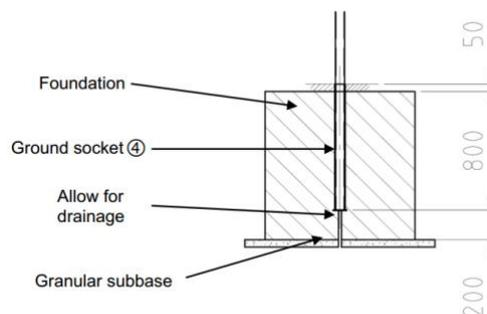

Figure 2: Foundation
As shown in figure 2, the posts ① or ②, or the sockets ④, must be set into the concrete foundation, class **C 25/30** (B 25). If the posts themselves are going to be set in concrete, the position of the boreholes at the top must be kept in mind. The holes for the eye nuts should point in the direction of the net.